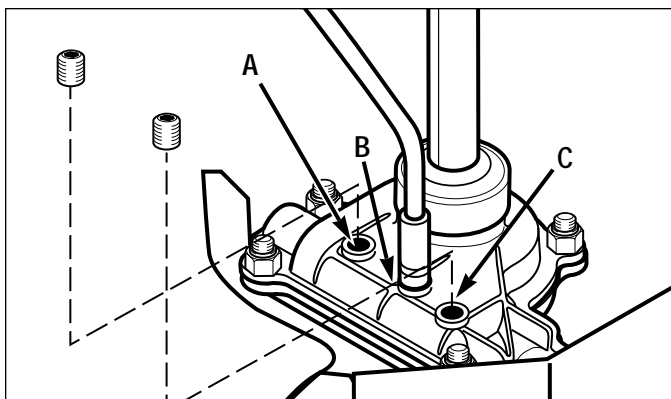

Figure 14: Transmission lubricant check and fill locations (A,B,C).
- Remove the three threaded plugs (A, B and C, Figure 14) from the transmission. Lubricant should be visible in the top two holes (B and C). If so, replace all three plugs. If lubricant is needed, proceed as follows.
- Place the nozzle of a standard grease gun firmly against the rim of the middle hole (B, Figure 14) and add grease until it begins to seep from the bottom hole (A). Reinstall the plug in the bottom hole (A). Next apply grease to the top fill hole (C) until it begins to seep from the middle hole (B). Reinstall the plugs in the middle (B) and top (C) holes.